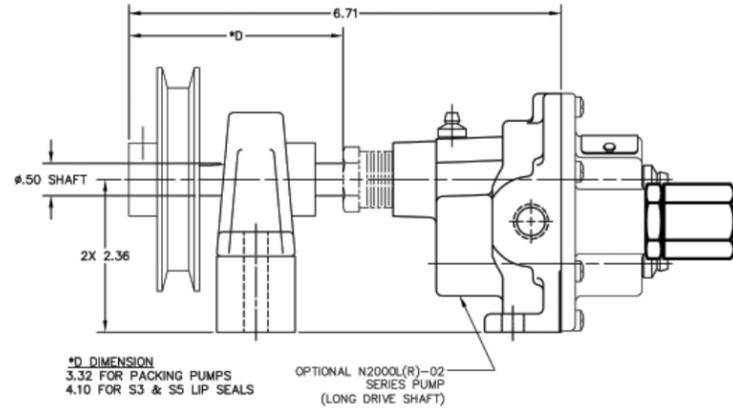

Figure 1
- 2) When space is an issue, use an optional "long shafted" pump and add a properly shimmed pillow block bearing (see figure 1).